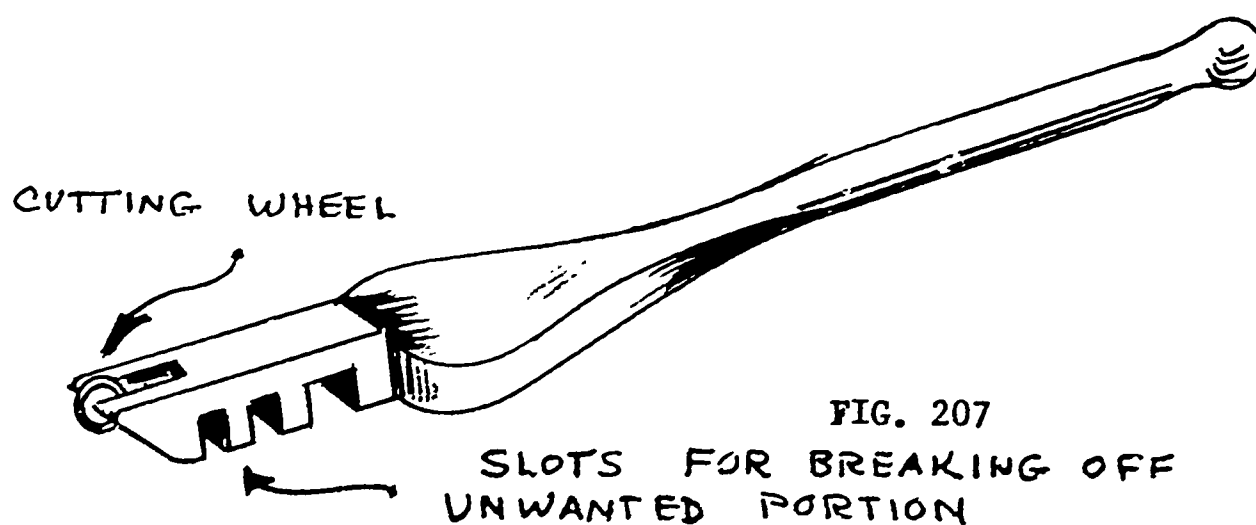

FIG. 207
3. A glass cutter is a small metal instrument used for scoring the glass and breaking off the unusable portion. It consists of a cutting edge (diamond, carborundum). The cutting edge is usually a small wheel $\frac{1}{8}$ " diameter. The outer edge also has two or three square seated grooves for gripping various thicknesses of glass -- $\frac{1}{16}$ ", $\frac{1}{8}$ ", $\frac{3}{16}$ ". On the opposite end from the cutter is a round ball to be used for tapping or causing the glass to crack along the scored line. See figure 207.